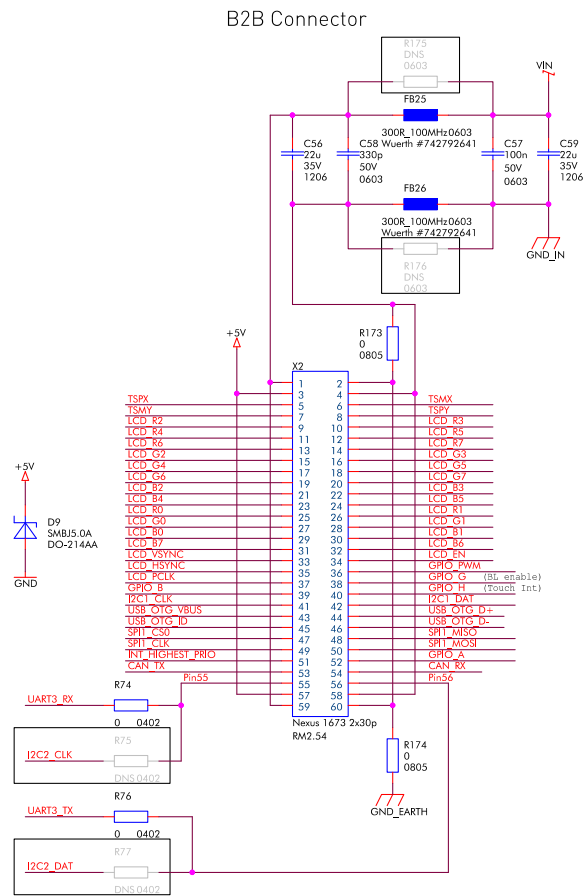

Figure 4: Filtering VCC_IN
- ²⁾ VCC_IN is the filtered power supply voltage which is connected to X6 or X7. See Figure 4.